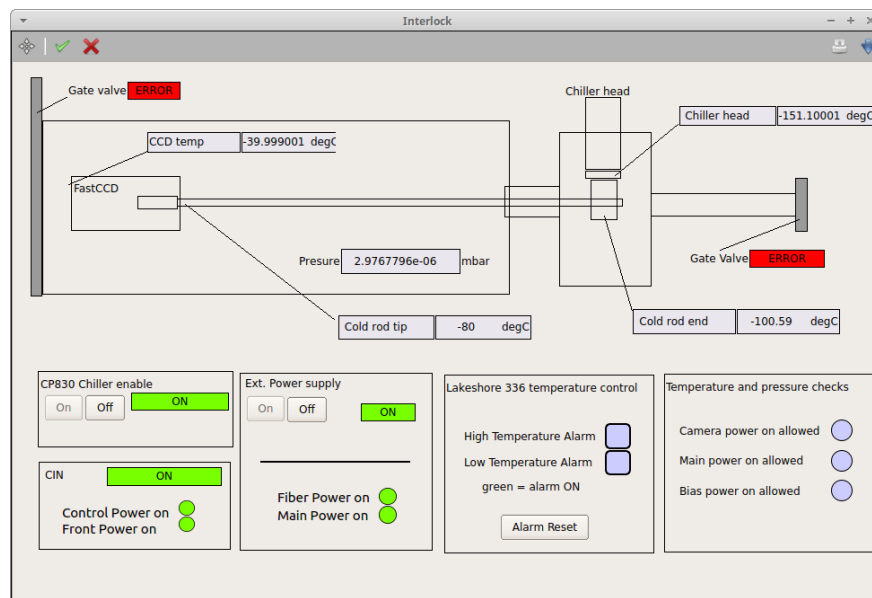

Fig. 3.5: The Interlock scene.
**Interlock:** This scene has all the information on the interlock conditions and the sensors used by them, see Fig. 3.5. Every time something is in an error or interlocked state or does not seem to respond to the commands sent via karabo, check this scene to find out if any alarm is on.